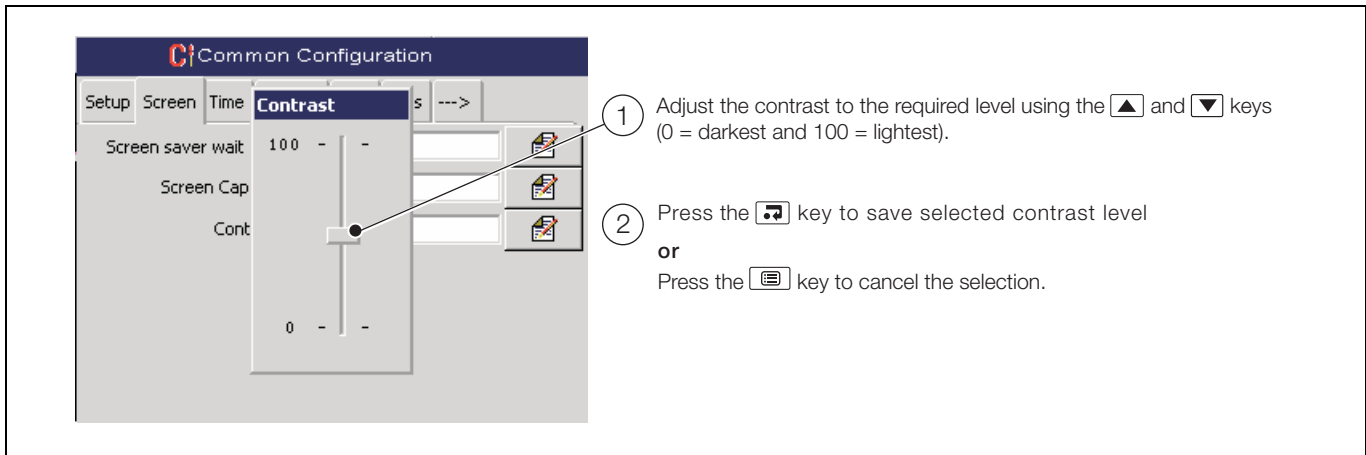

Fig. 4.4 Adjusting Screen Contrast
4.2.1 Adjusting Screen Contrast – Fig. 4.4